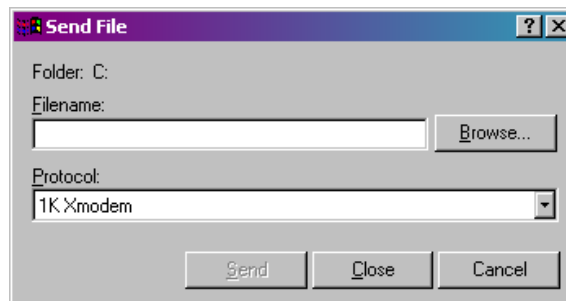
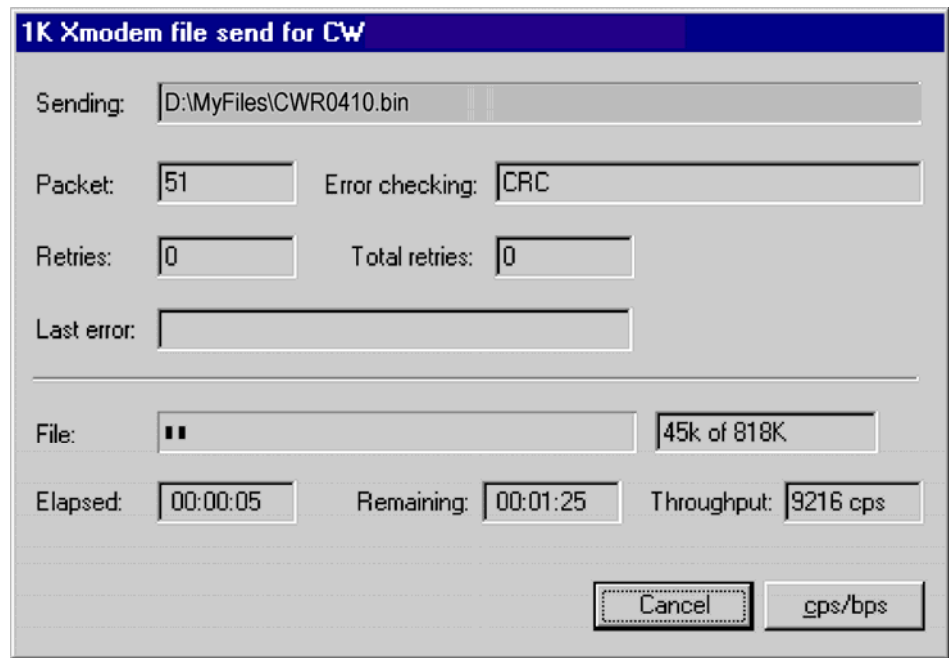

Figure 5-3. Send File dialog box
Figure 5-4. HyperTerminal (Download in Process)
8. In the Send File dialog box (see Figure 5-3), select **1KXmodem** for the protocol, enter the filename of the appropriate .bin file in the format "CWPxxxxx.bin" (where xxxxx varies from release to release) and click **Send** to start the flash upgrade (see Figure 5-4). When you see the HyperTerminal Mode Menu again, it means the download has completed.